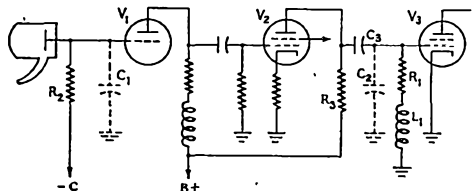

Fig. 12 — "High-peaker" stage.
the grid of the first amplifier stage without regard for frequency distortion, then carefully to preserve this distorted signal while it is being amplified in one or two stages, and finally introducing a complementary network which gives equal and opposite distortion to that generated by the input network. With frequency components from 30 cycles to about 4 Mc. in the output signal of an Iconoscope developed across  $R_2$  in Fig. 12, it is readily seen that the shunt reactance of  $C_1$  will limit severely the high-frequency components.
For an example let's determine  $L_1$ ,  $R_1$ ,  $R_3$ , and  $C_3$  of Fig. 12, assuming  $C_1$  to be 12  $\mu\text{fd.}$  and  $C_2$  to be 30  $\mu\text{fd.}$ ,  $f_c$  5 Mc., and 30 cycles the lowest frequency. From equation (30),